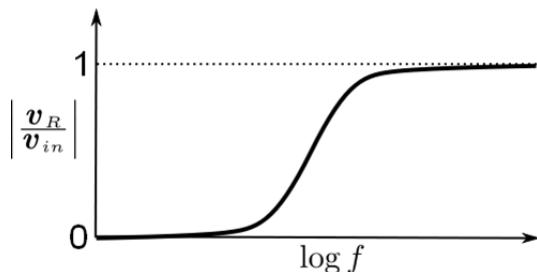

Figure 2: High-pass filter response. Output is close to the input voltage at high frequencies, but is attenuated at low frequencies.
From Eq. (1) and (2) it is clear that the output depends on the value of ωRC , where $\omega = 2\pi f$. The frequency responses are shown schematically in Figures 2 and 3.